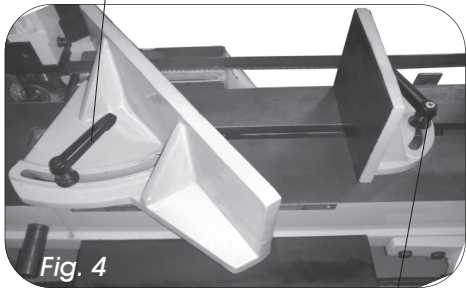

Fig. 4
- Loosen both lever locks (Fig. 4).